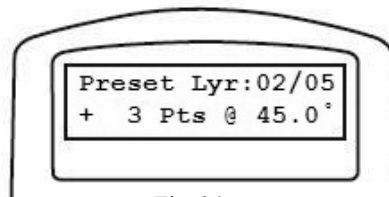

Fig. 34
2. The hand control will ask if you want to edit the preset layers. Press **1** to continue to the editor. The hand control will display the existing preset layers. The top line will show the number of the layers you are in, and how many total layers are being used. The second line shows the number of images to be taken in one full 360° rotation of the mount at the altitude angle displayed. In the example in **Fig. 34**, you are viewing layer 2 out of 5 total layers and the mount will take 3 images at an altitude angle of 5° above the home position. You can use the scroll keys to see each layer. When you are ready to make changes to the layers, press **ENTER**.